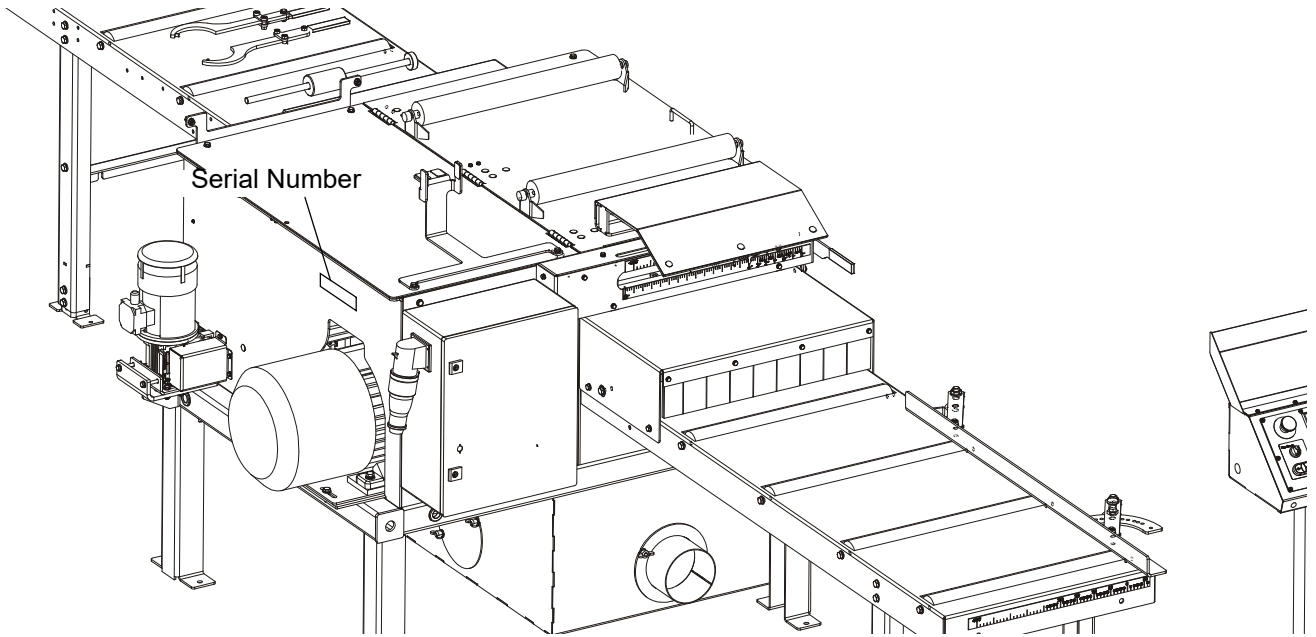

**FIG. 1-1**
**See Figure 1-1.** The figure below shows an exemplary identification plate of the EG300 Edger.